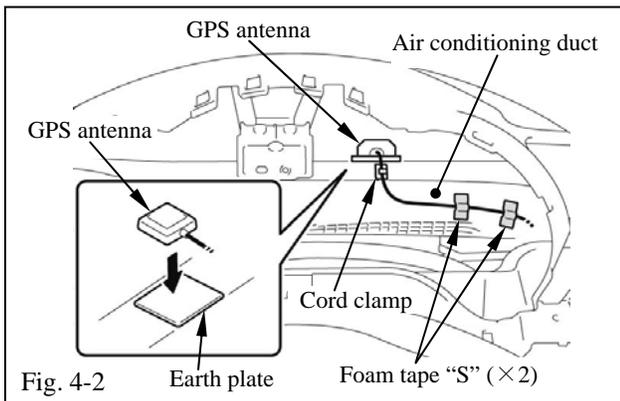

Fig. 4-2
(3) Place the GPS antenna onto the center of the earth plate (Fig. 4-2).
(4) Fix the GPS antenna cord to the air conditioning duct with a cord clamp and foam tape "S" (Fig. 4-2).